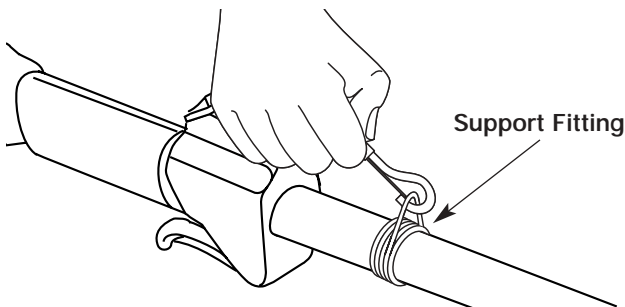

FIGURE 5
3. Put the harness on overhead and onto shoulder. Snap it on to the support fitting, Figure 5.